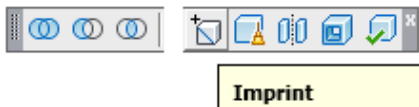

Figure Step 7A
Step 7 Click the Imprint icon and complete the command, as shown below, to attach the circle to the front face of the solid. (Figure Step 7A, 7B, and 7C).